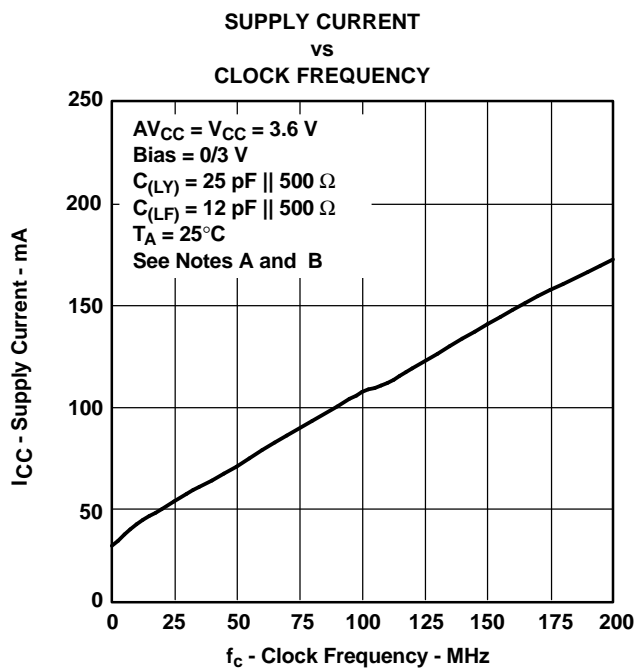

Figure 9.
(2) For dynamic ICC vs Frequency, see Figure 8 and Figure 9.